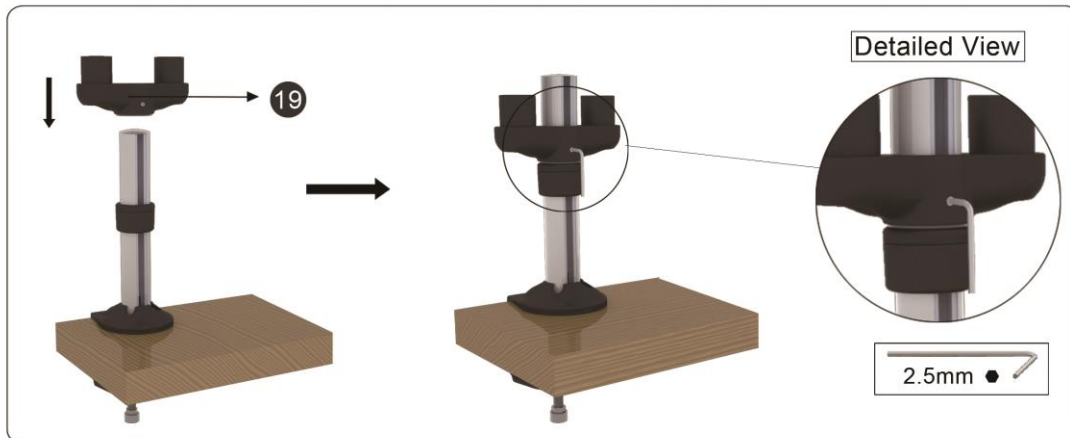

Figure 3-1
1. Install the DEK (19) onto the mounting pole. Using the provided 2.5mm Allen wrench, securely fasten the DEK to the mounting pole (See Figure 3-1).